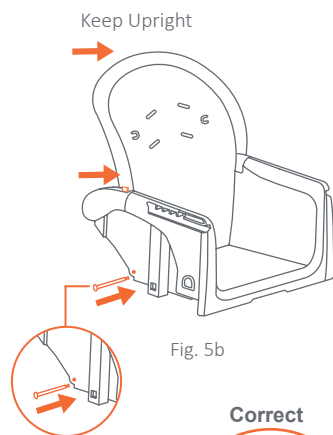

Fig. 5b
• **Important Pin Set Up:** The backrest must be in the most upright position before inserting the pins (Fig. 5b).